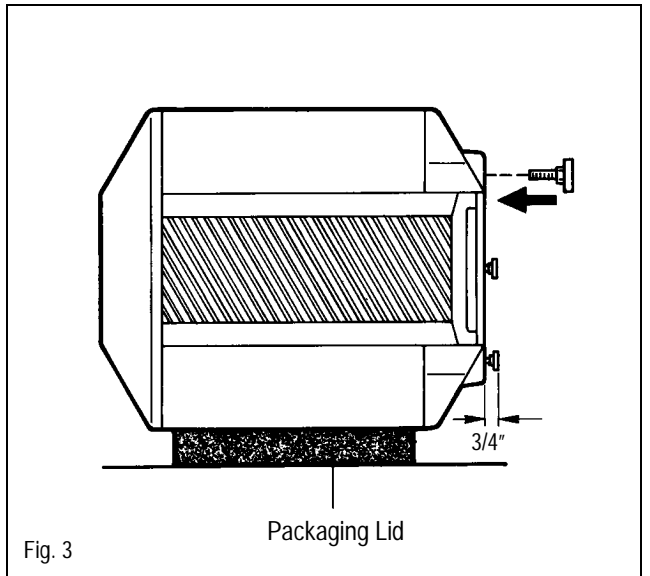

Fig. 3
- Remove tank top cover. Tilt tank and lay on its side on the packaging lid (Fig. 3).
- Screw the three feet into the tank bottom. Extend them 3/4" (fig. 3)..